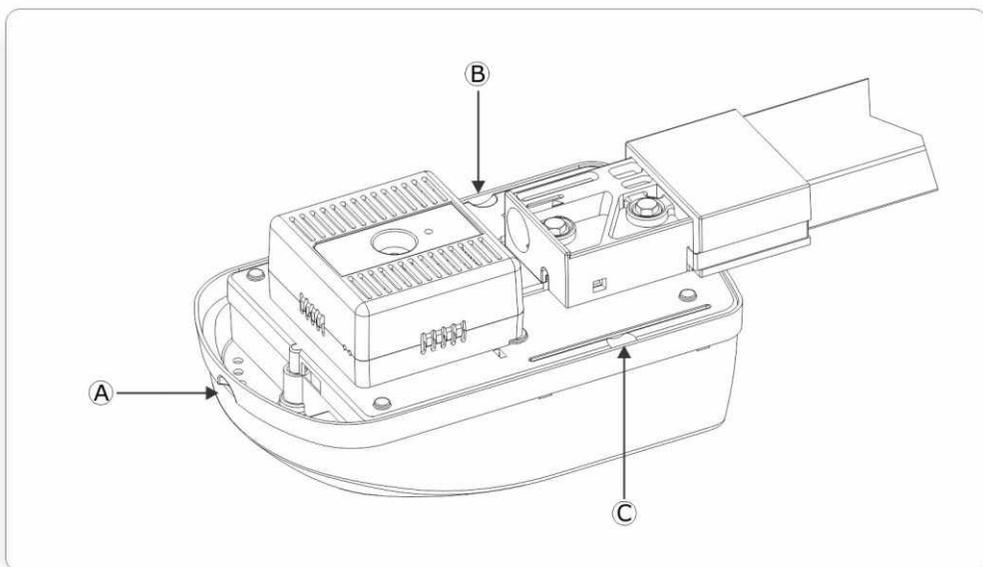

FIGURE 18. XTRAC CONTROL BOX
- In the event of prolonged power outage the **XTrac** will automatically shut down (when battery voltage drops below 23 volts) in order to conserve remaining voltage - LED Indicator (Figure.18-C) will extinguish and the **XTrac** will cease to function
- II. open the Courtesy Lamp cover by pulling it down at the finger recess point (Figure.18-A).
IV. remove the Control Box cover by pulling first outwards and then downwards at the finger recess points (Figure.18-B and C).
- The Dipswitches located on the Control Board (Figure.18) enable or disable specific functionality